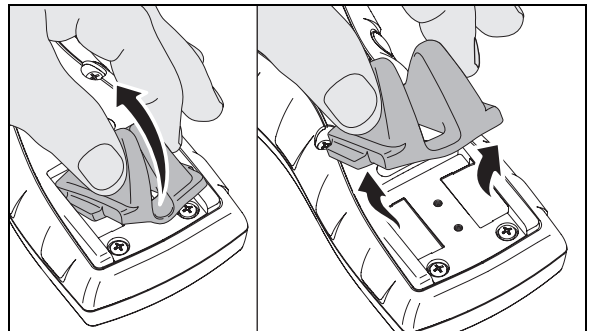

Figure 8. How to Remove and Install the Belt Clip Protector
- 2 Remove and install the protector as shown in Figure 8.